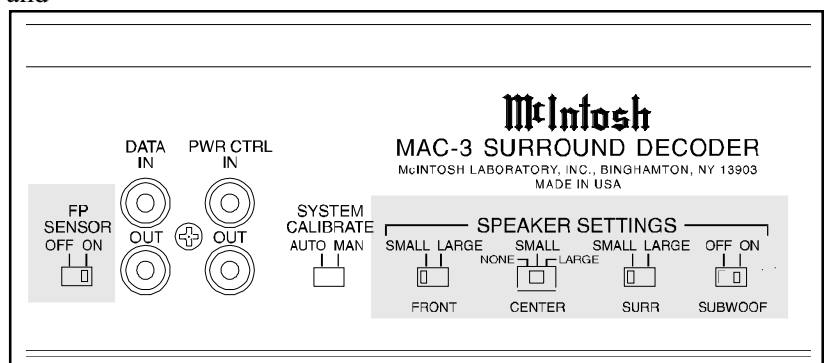

Figure 6
*Refer to Figure 6 on the next page, for location of Rear Panel Switches.*